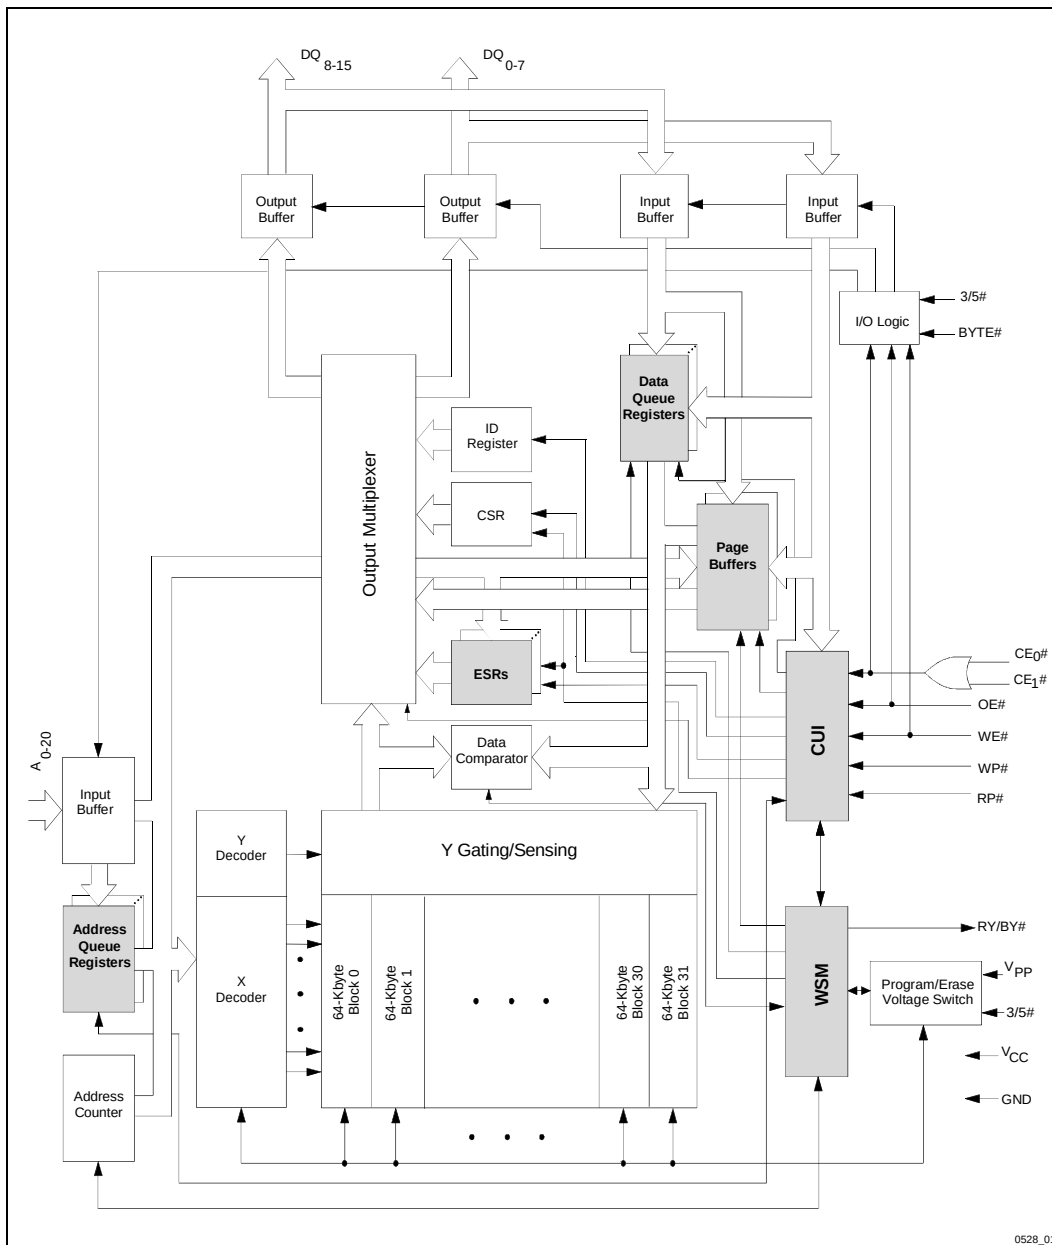
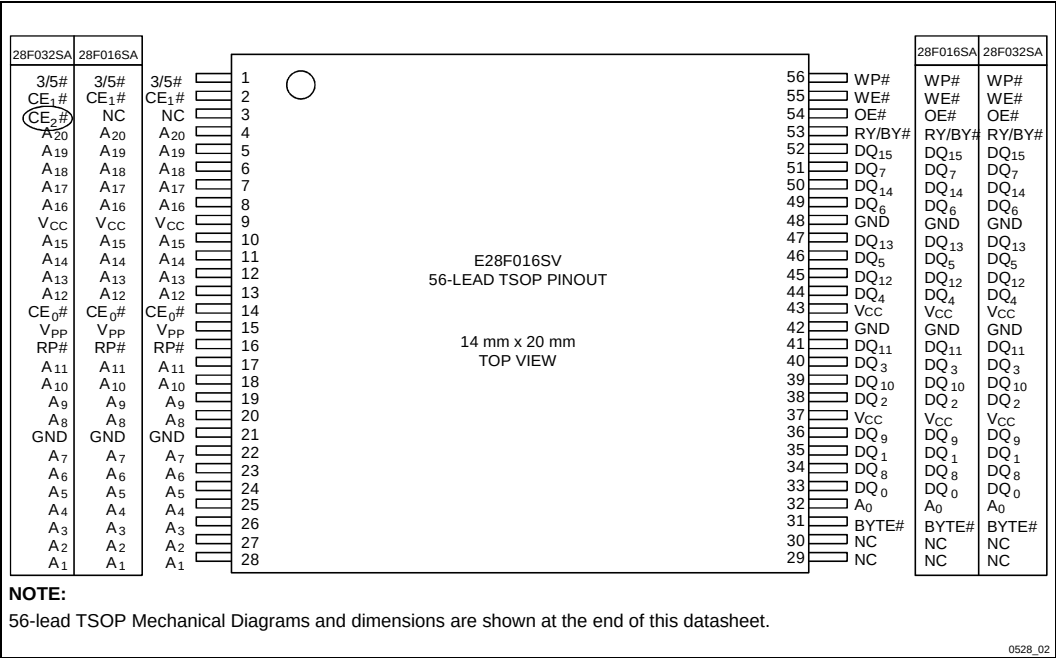

Figure 1. 28F016SV Block Diagram
Figure 2. 28F016SV 56-Lead TSOP Pinout Configuration
-004	Added 3/5# pin to Block Diagram (Figure 1), Pinout Configurations (Figures 2 and 3), Product Overview (Section 1.1) and Lead Descriptions (Section 2.1) Added 3/5# pin to Test Conditions of I_{CCS} Specifications Added 3/5# pin (Y) to Timing Nomenclature (Section 5.5) Increased t_{PHQV} Specifications at 5V V_{CC} to 400 ns for E28F016SV 065 devices and 480 ns for E28F106SV 070 devices. Modified Power-Up and Reset Timings (Section 5.9) to include 3/5# pin: Removed t_{5VPH} and t_{3VPH} specifications; Added t_{PLYL}, t_{PLYH}, t_{YLPH}, and t_{YHPH} specifications Added t_{PHL3} and t_{PHL5} specifications to Power-Up and Reset Timings (Section 5.9) Corrected TSOP Mechanical Specification A₁ from 0.50 mm to 0.050 mm (Section 6.0) Corrected SSOP Mechanical Spec. B (max) from 0.20 mm to 0.40 mm (Section 6.0) Minor cosmetic changes throughout document.
A significant 28F016SV change occurred between datasheet revisions 290528-003 and 290528-004. This change centers around the addition of a 3/5# pin to the device's pinout configuration. Figures 2 and 3 show the 3/5# pin assignment for TSOP and SSOP Type 1 packages. Intel recommends that all customers obtain the latest revisions of 28F016SV documentation.
order address and address A_0 is not used (don't care). A device block diagram is shown in Figure 1.
The 28F016SV 56-lead TSOP and 56-lead SSOP Type I pinout configurations are shown in Figures 2 and 3.